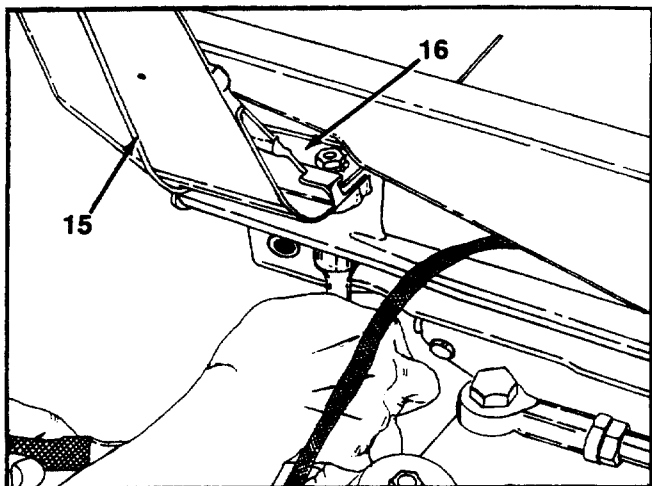

FIGURE 10.
11. Support hood and grille assembly and remove two bolts and lock washers securing each side of grille, at nut plates, to the tractor frame, using a socket wrench up through the access holes in frame. See figure 10.